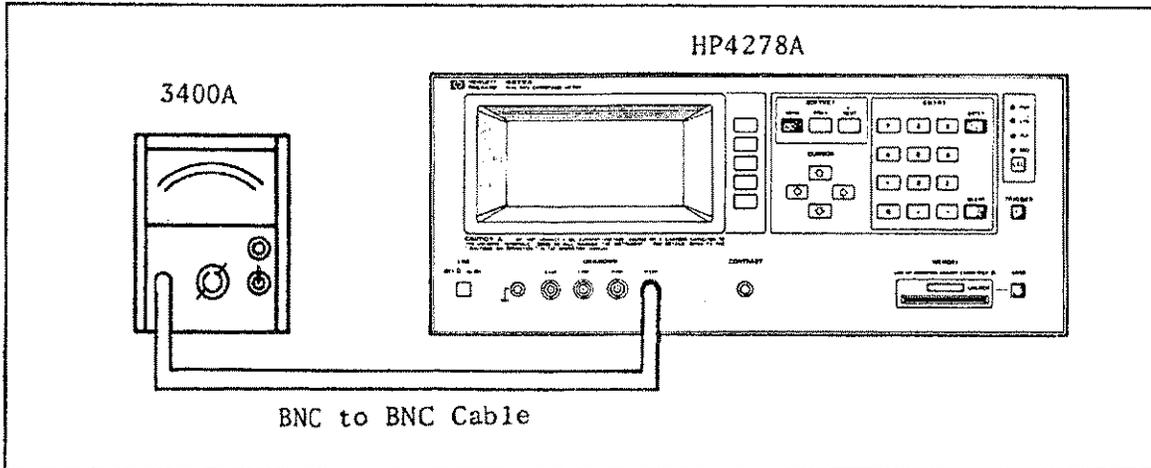

Figure 6-2. Test Signal Level Accuracy Test Setup
1. Connect the 3400A to the 4278A as shown in Figure 6-2.